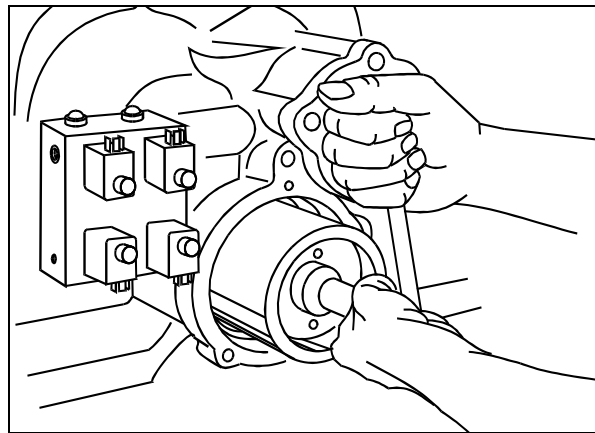
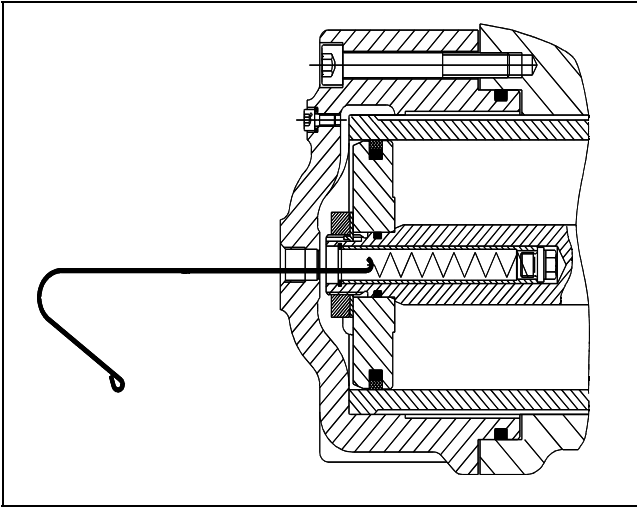

Figure 6: Loosening or tightening the grooved nut (127) using tool T 6
Figure 8: Removing the inner tension spring (119) by means of the assembly hook T10 to attach the position sensor rod (125)
- Briefly push the cylinder limitation onto the front piece of the piston rod (116) to calibrate the seal. Use 2 threaded rods of device T2 to do so.
- Loosen the screws (106), then remove the cover (104).
- Unlock the lock plate (128) and loosen grooved nut (127) using tool T6 (figure 6).
- The seal sets (105, 105A and 115, 115A) of the piston (101) and cylinder limitation (114) must be assembled according to section 5.3, Changing the Seals.
- Insert O-ring (109) in the far corner of the casing.
- Push the cylinder limitation (114) over the held piston rod (116) to the furthest casing limit stop using 2 screws of removal device T2.
- Insert the O-ring (110) in the casing groove.
- Push the cylinder (108) into the casing.
- Insert the O-ring (107) in the piston rod and attach piston (101) and a new lock plate (128).
- See figure 6 for further details on how to pull on the piston with the grooved nut (127) using the grooved nut wrench T6.
- Assemble O-ring (109), attach the cover (104) and fasten it with the screws (106).
- Install the assembly hook T10 through the center opening of the cover and pull out the inner tension spring (119) by using this tool (figure 8).
- Assemble the hook of the position sensor rod (125) onto the pulled out tension spring which the outer tension spring (120) and the tension spring support (121) are already attached.
- Screw in the pressure pipe together with the O-ring (124) located below it.
- Push the position sensor (123) over the pressure pipe.